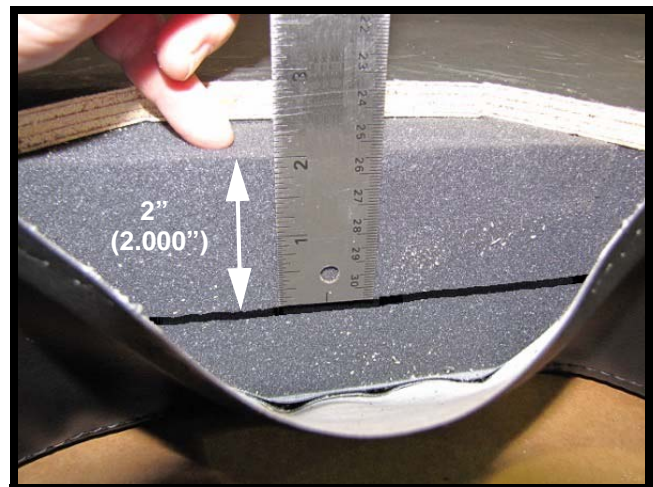

FIGURE 10
13. Measure 2" (2.000") down from the top of the foam and draw a line with a permanent marker horizontally across the foam. See Figure 10.